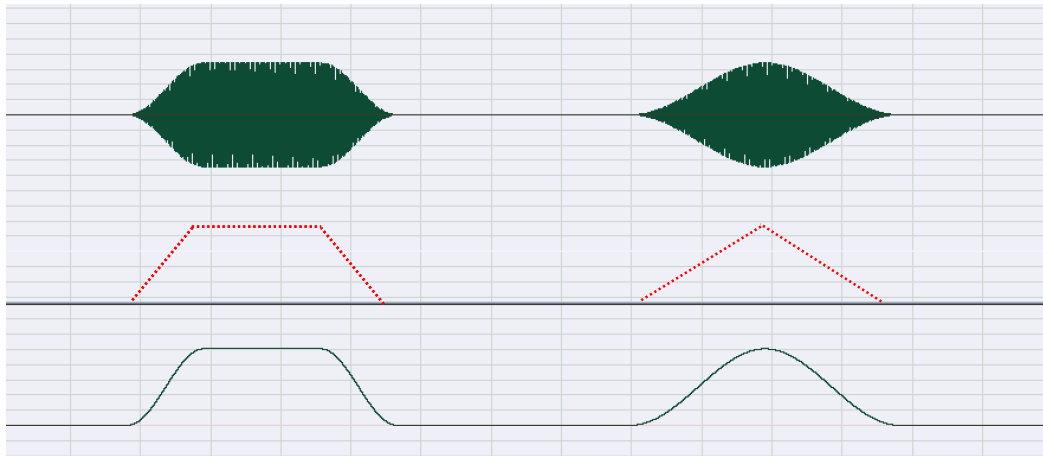

Figure 6 – Gaussian grain envelope
*Gauss Envelope*: with this choice, the envelope shape will be that relating to a combination of a trapezoid and a Gaussian curve (bell curve) in the sense that the rise and fall ramps of the trapezoid will be made to match the left and right sides of the Gaussian as shown in figure 6.